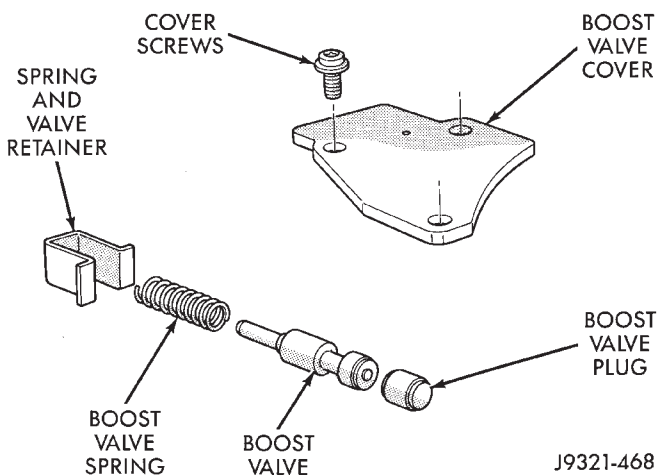

Fig. 49 Boost Valve Components
(14) Remove boost valve retainer, valve spring and boost valve (Fig. 49).